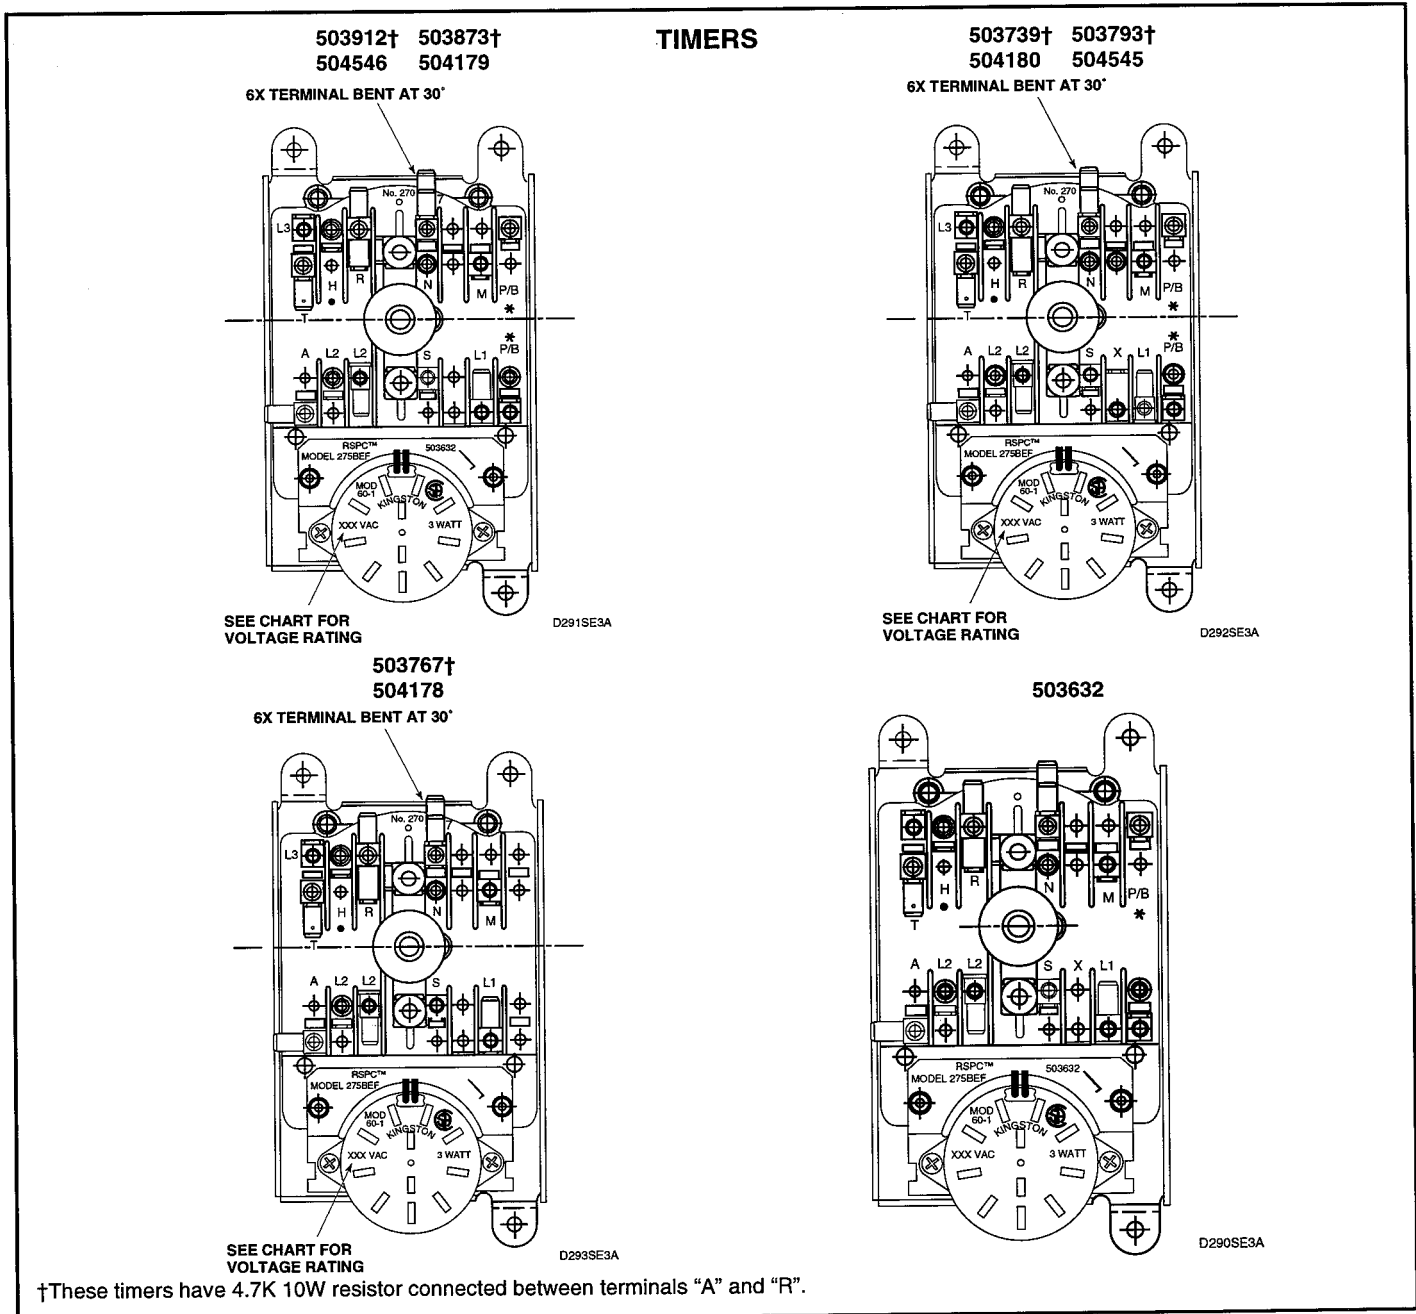

Figure 7-7
### 10. TIMER ADVANCE AND TIMER CONTACT POINTS (FIGURE 7-7)
- Set test meter to read Ohms and apply meter probes to terminals. See figure 7-7.
- Starting with timer knob indicator in OFF position at top of timer, slowly turn timer knob clockwise until indicator is again pointing toward OFF position at top of timer. Meter should register “zero” reading when circuit being tested is completed by timer. Refer to figure 7-7 for Timer Cycle Chart showing when circuit is made.